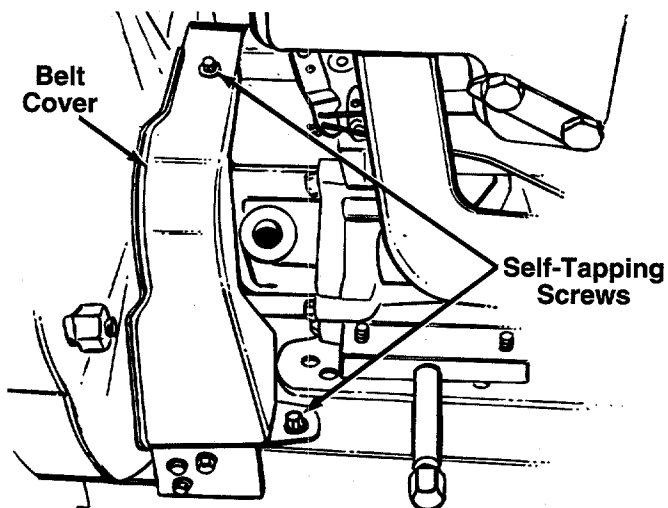

FIGURE 15.
3. Remove the plastic belt cover on the front of the engine by removing the two self-tapping screws. See figure 15.